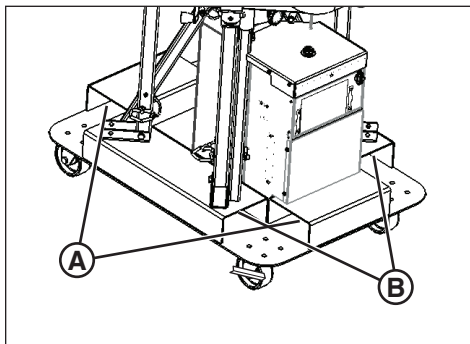

Figure 5
The portable light tower is equipped with two sets of forklift pockets: one on either side of the unit (A, Figure 5), and one on the front and back of the unit (B).